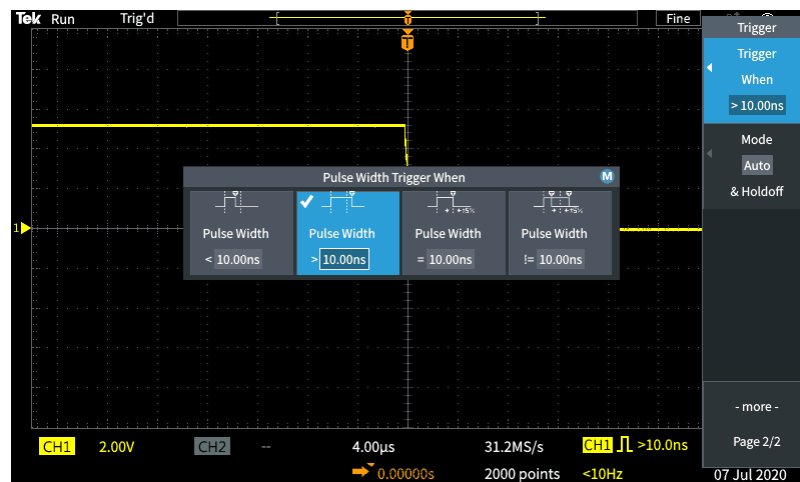

Figure 7. Setting pulse width trigger parameters
10. Press **Trigger When**, and use the MPK to select **Pulse Width >**. Change the pulse duration to > 10ns. Since the pulse width is much greater than 10 ns, the waveform triggers (Figure 7).